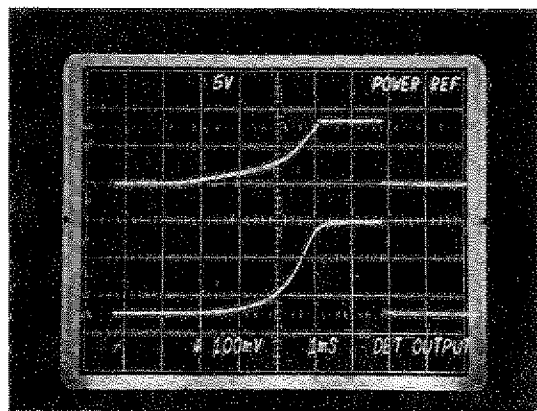

FIGURE 5-1
- h. Channels A and B should have similar waveforms, with maximum detector output approximating 1 watt at A201J2 (see Figure 5-1).